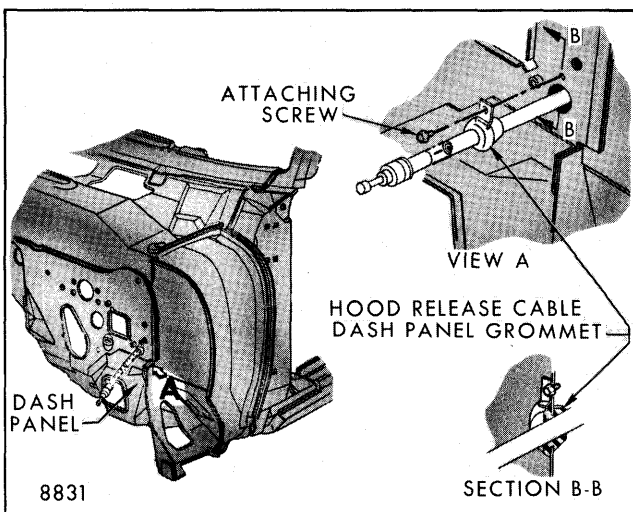

Fig. 4-2-Hood Release Cable Dash Panel Grommet
3. Remove screw securing release cable grommet to firewall and remove grommet from cable (Fig. 4-2).
2. Remove screw securing release cable grommet to dash panel (Fig. 4-2); then remove grommet from cable.